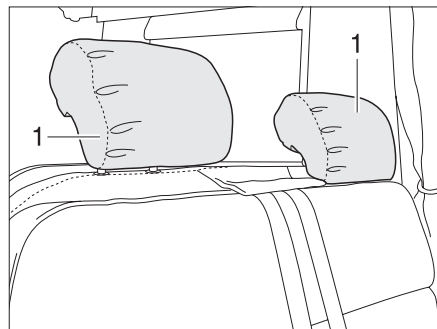

Fig. 11 Headrest for bench seat (Variant 1)
- Push the headrests (Fig. 11,1) upwards or downwards by hand.